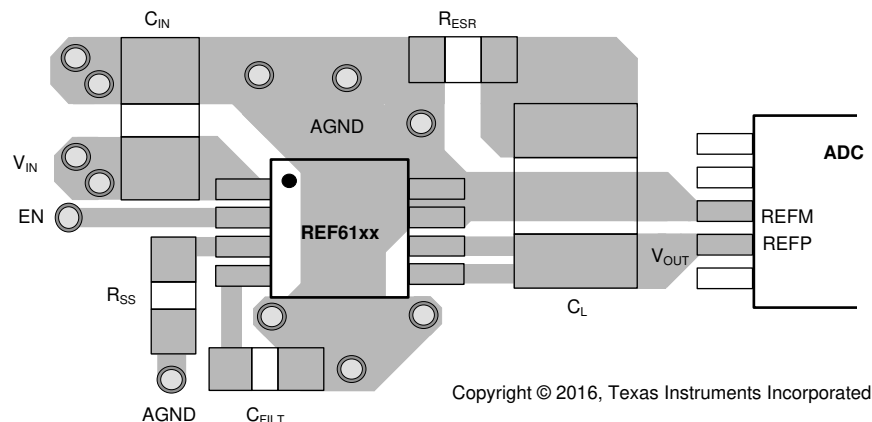

Figure 9-9. Layout Example
Figure 9-9 illustrates an example of a PCB layout for a data-acquisition system using the REF61xx. Some key considerations are:
- Run two separate traces between VOUT_F, VOUT_S and the output capacitor, as shown in Figure 9-9.
- Short the GND_F and GND_S pins with a solid plane, and extend this plane to connect to the output capacitor C_L , as shown in Figure 9-9.